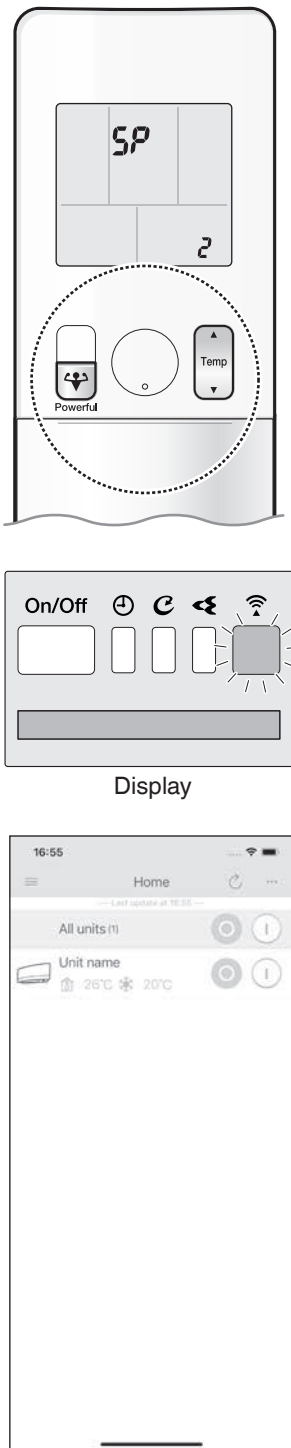

Fig. 1
**7. Open the Home screen of the DAIKIN Mobile Controller application. The air conditioner will be listed there (Fig. 1).**